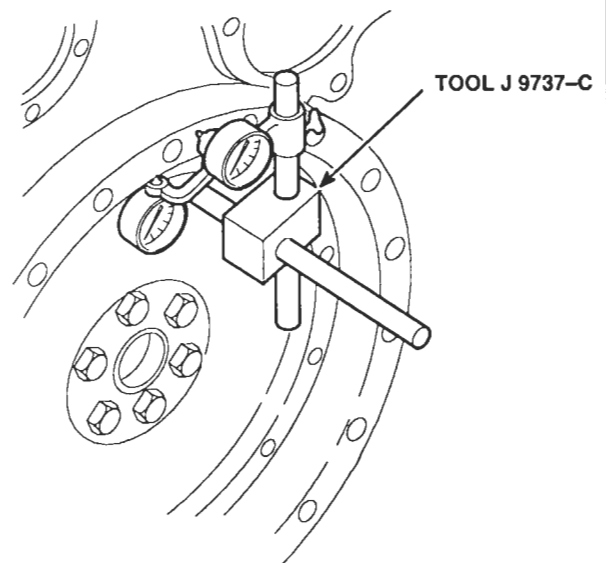

Figure 6. Checking Flywheel Housing Concentricity
13. Check the flywheel housing concentricity (Figure 6.) and bolting flange face runout with tool set J 9737–C as follows: